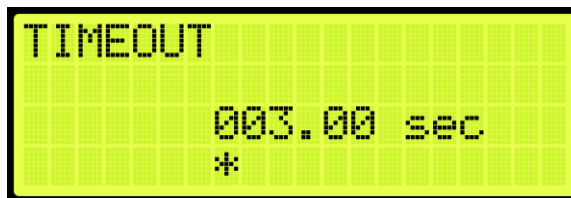

Figure 509: TIMEOUT Menu
4. From the TIMEOUT menu, set the time of the threshold (See Figure 509).